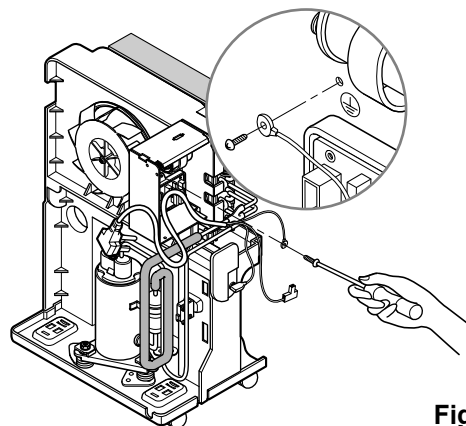

Figure 9
1. After opening the control box, remove the screw that holds the ground wire. (See Figure 9)